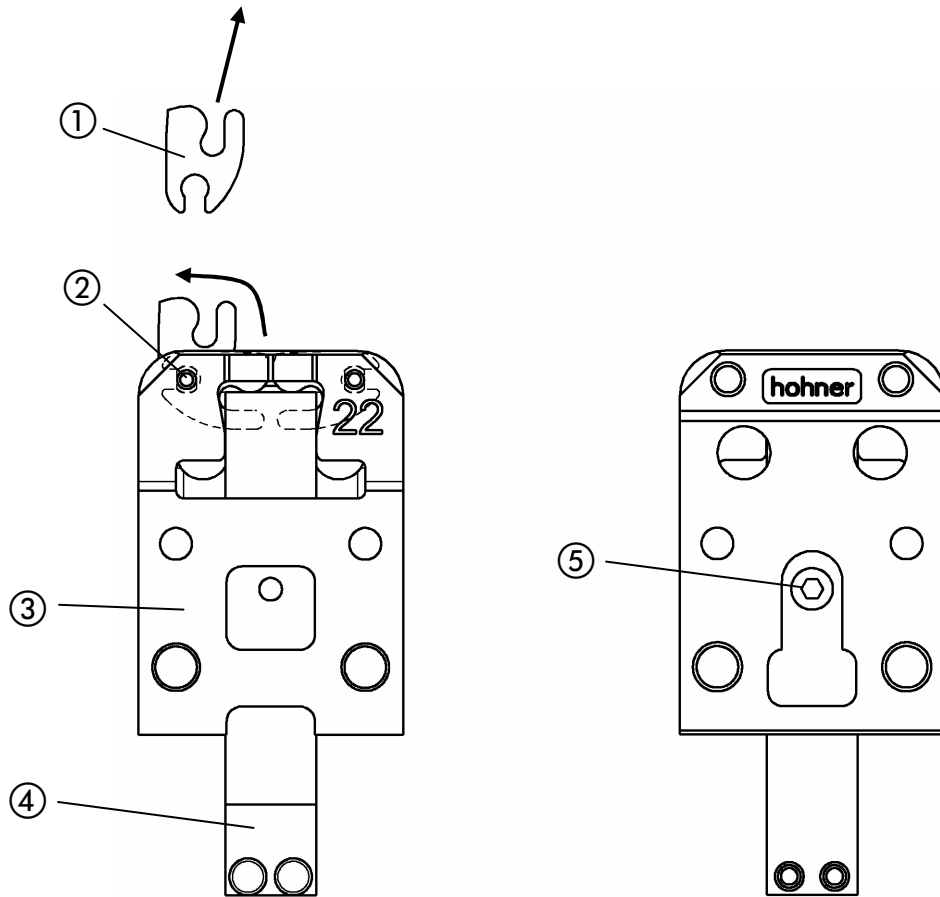

Fig. 28
- Fig. 28 -
- Unscrew locking screw ⑤.
- Remove clincher ram ④ downwards.
- Turn clincher ① upwards in clincher box ③ and remove from the locking pin ②.
- Screw in and tighten locking screw ⑤.